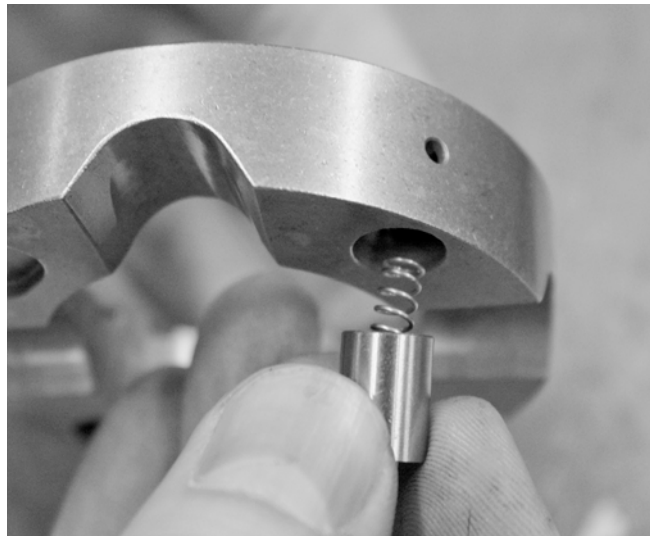

Figure 6
- Carefully install the alignment pins and springs into the holes in the back of the drivers. Make sure the springs do not fall out or become wedged sideways in the holes during installation. *Figure 6*